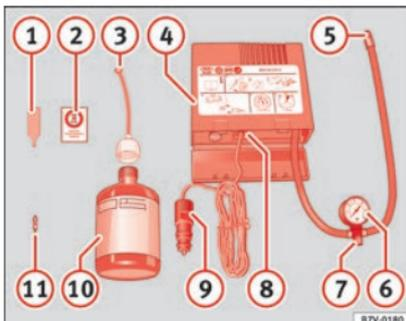

Fig. 188 Standard representation: Contents of the tyre mobility system.
The tyre mobility set is located underneath the floor covering in the luggage compartment. It includes the following components » Fig. 188:
Screw the inflator tube » Fig. 188 ⑤ again and check the pressure on the gauge ⑥.